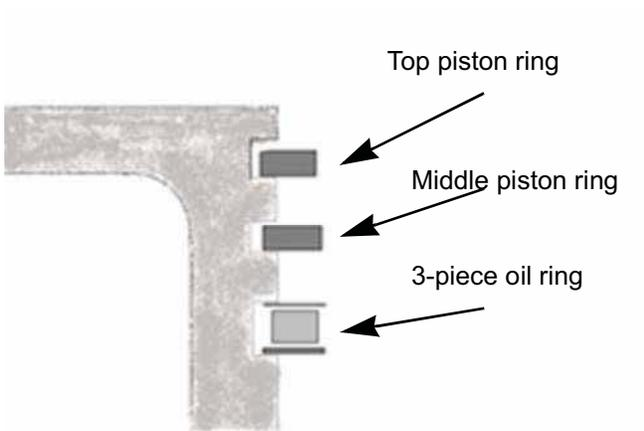

Figure 10.10
**NOTE:** Typically there is a top and bottom profile to compression rings, But the compression rings on the MTD are symmetrical. See Figure 10.10.